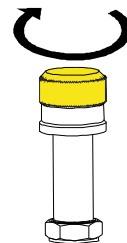

Figure 3-6. Mast Manual Descent Actuator Installation
- a. Install the actuator on the cylinder hydraulic valve (refer to Figure 3-6.).